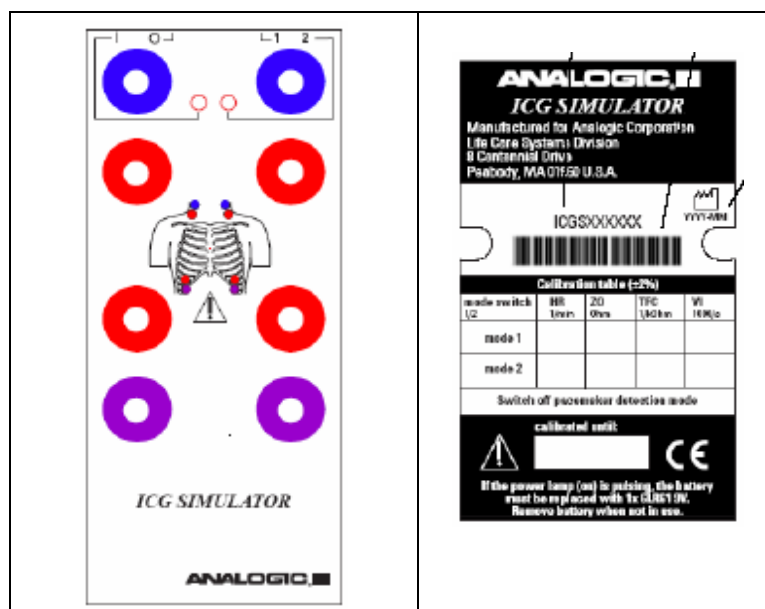

Figure 6-2. ICG Simulator (Front and Back Labels)
- Analogic ICG Simulator or equivalent simulator (Figure 6-2)